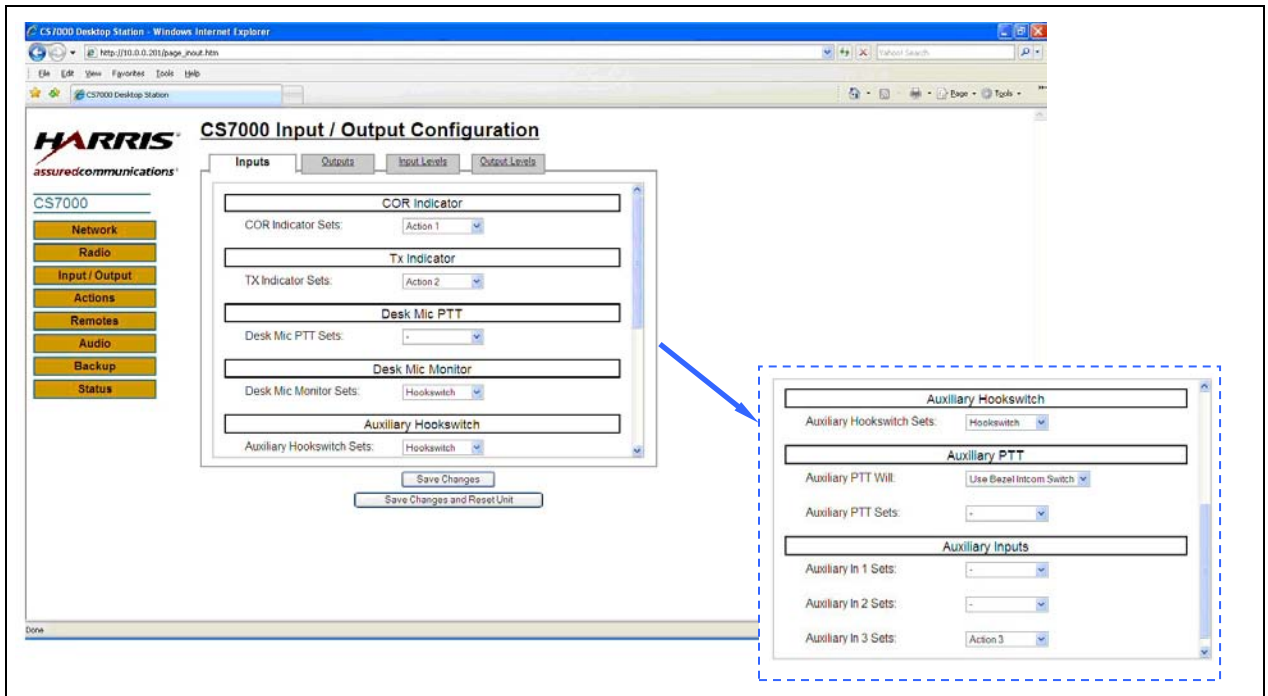

Figure 8-14: CS7000 Input/Output Configuration Web Page—Inputs Tab (Example)
1. On the CS7000 Input/Output Configuration web page's Inputs tab, assign the Remote Control (Plus) Board's COR Indicator Sets pull-down list to Action 1. See Figure 8-14.
The CS7000 Input/Output Configuration web page's Inputs tab is shown in Figure 8-14.